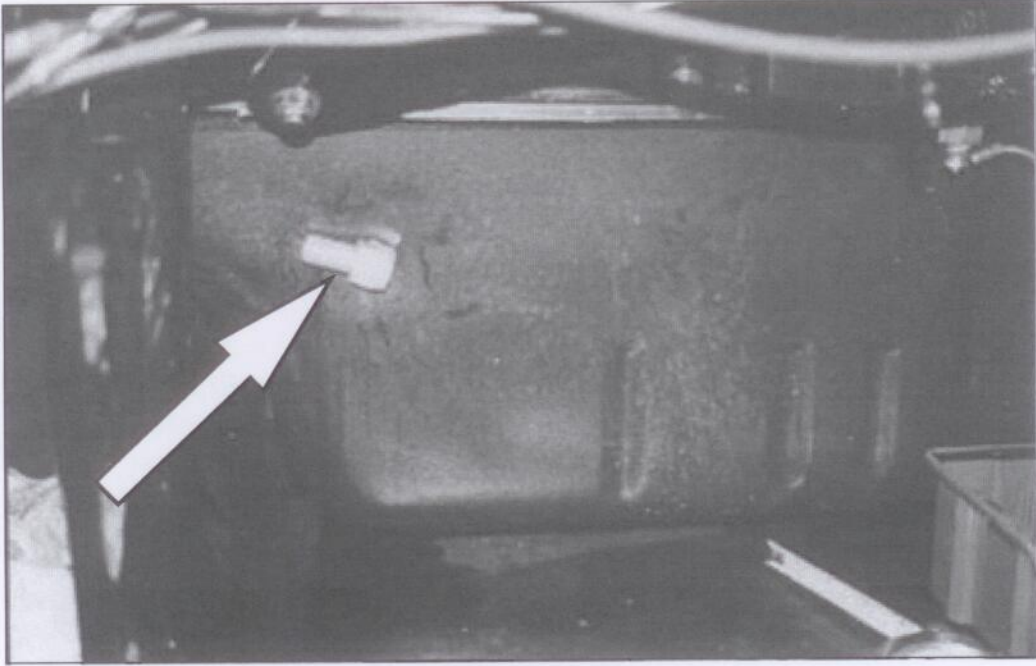

FIGURE A1
4. Using silicone sealer, install the supplied oil return fitting into the pan. (See figure A1)